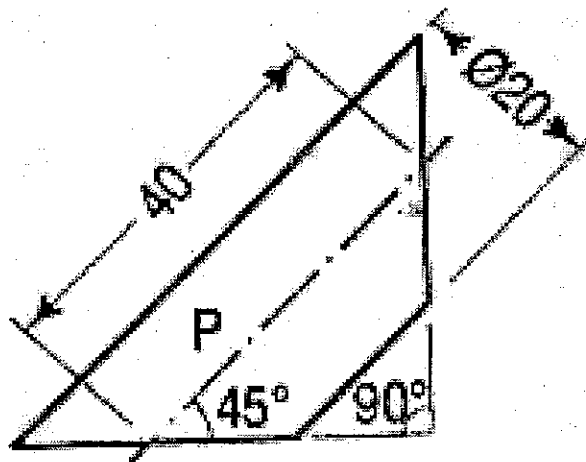

Figure: 1
7. Draw the development of the lateral surface of the part P of cylinder, the front view is shown in figure 1. All dimensions are in mm. [15]